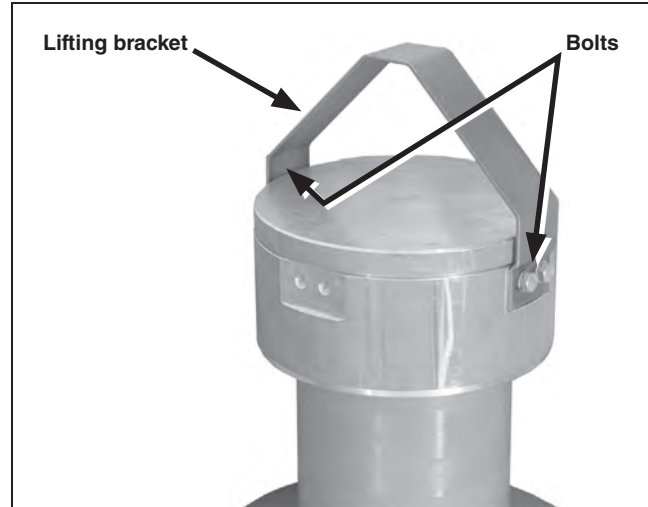

Figure 64. Remove the lifting bracket.
**STEP 1.** Remove the lifting bracket from the interrupter. Make sure all packing material has been removed from the top of the interrupter. See Figure 64.